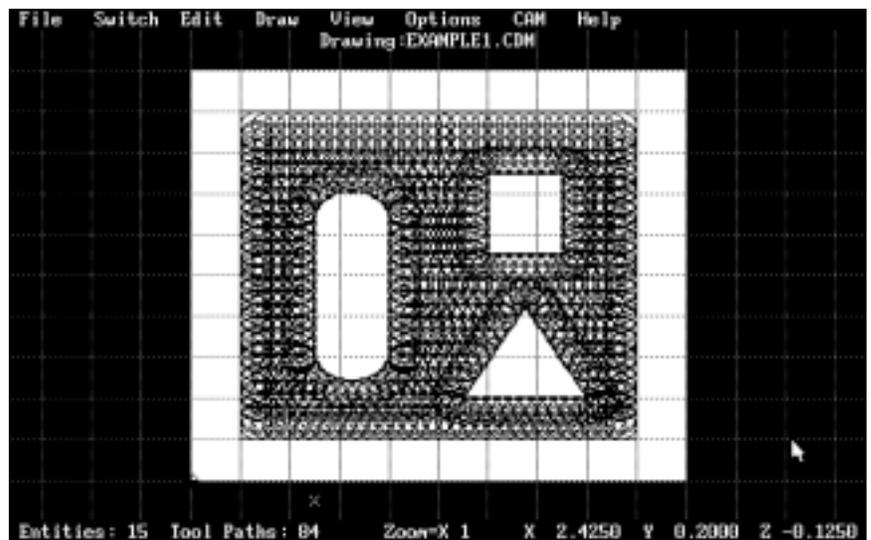

Figure 4.1.7 Completed Tool Path
19. Repeat Step 18 for last two islands. The screen should now look like **Figure 4.1.7.**